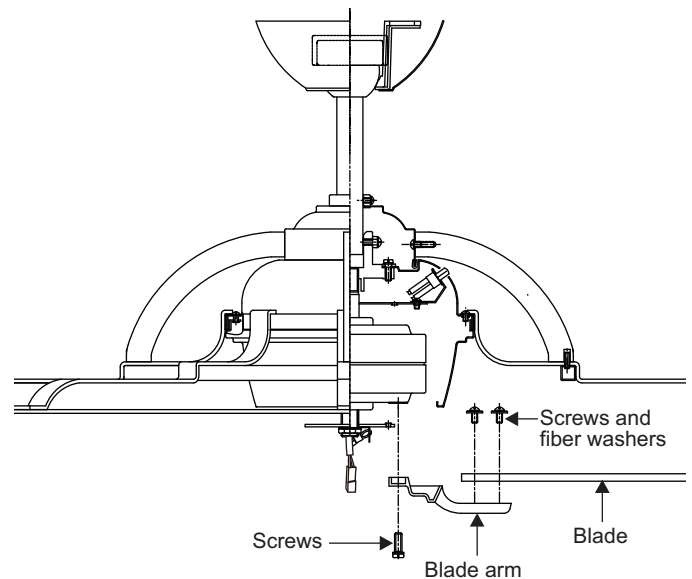

Figure 15
1. Attach the blades to the blade arms using three screws and fiber washers as shown in Figure 15. Start a screw into the arm, do not tighten. Repeat for the 2 remaining screws and washers.
3. Fasten the blade assembly to the motor using the motor screws provided. (Fig. 15)